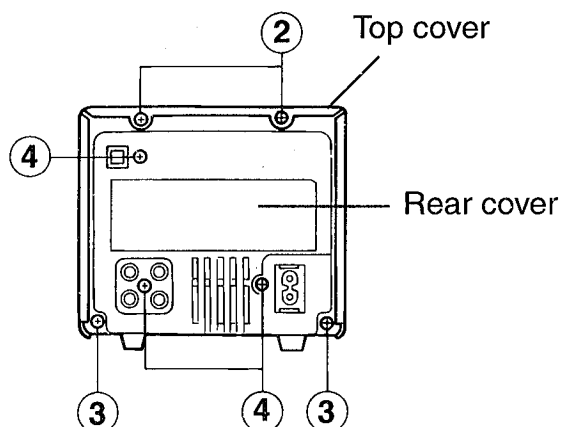

Fig. 3
2. From the back of the body, remove the two screws ② retaining the top cover. (See Fig. 3)
■ Removing the Rear Cover (See Figs. 3, 4)
1. From both sides of the body, remove the two screws ③ retaining the rear cover. (See Fig. 3)
2. From the back of the body, remove the three screws ④ retaining the rear cover. (See Fig. 3)